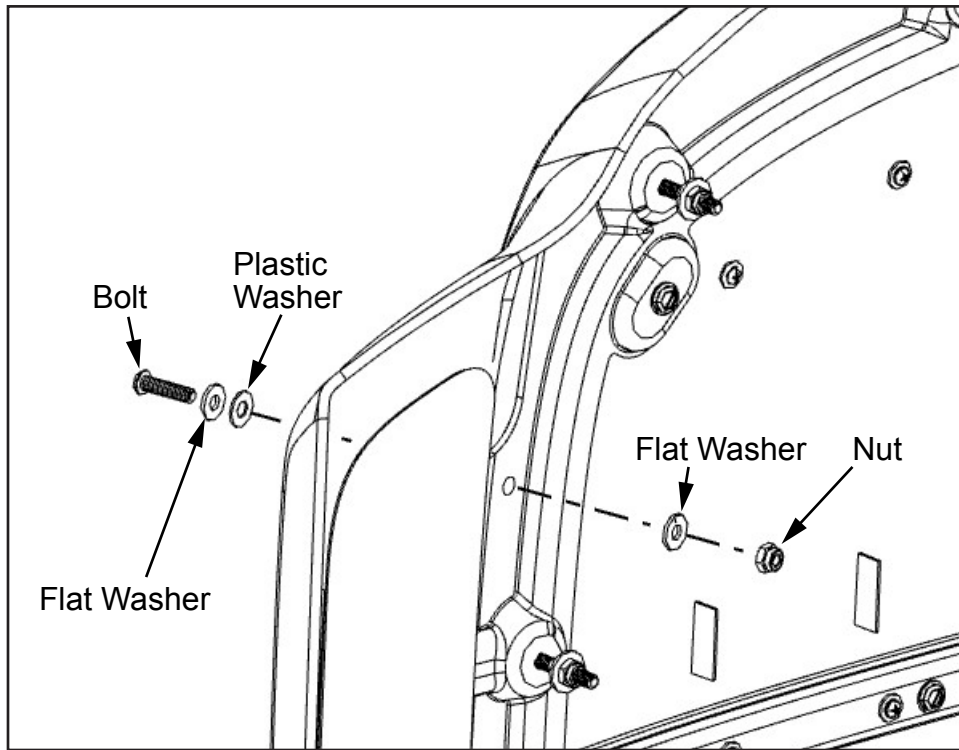

Figure 3
5. In each of the previously drilled 1/4" holes install (1) GE401525ES12 bolt, (2) GE811625NS01 flat washers, (1) A6200017-001 plastic washer, and (1) GE282025BS01 nut. Tighten to 79 lbs.-in of torque (see *Figure 3*).